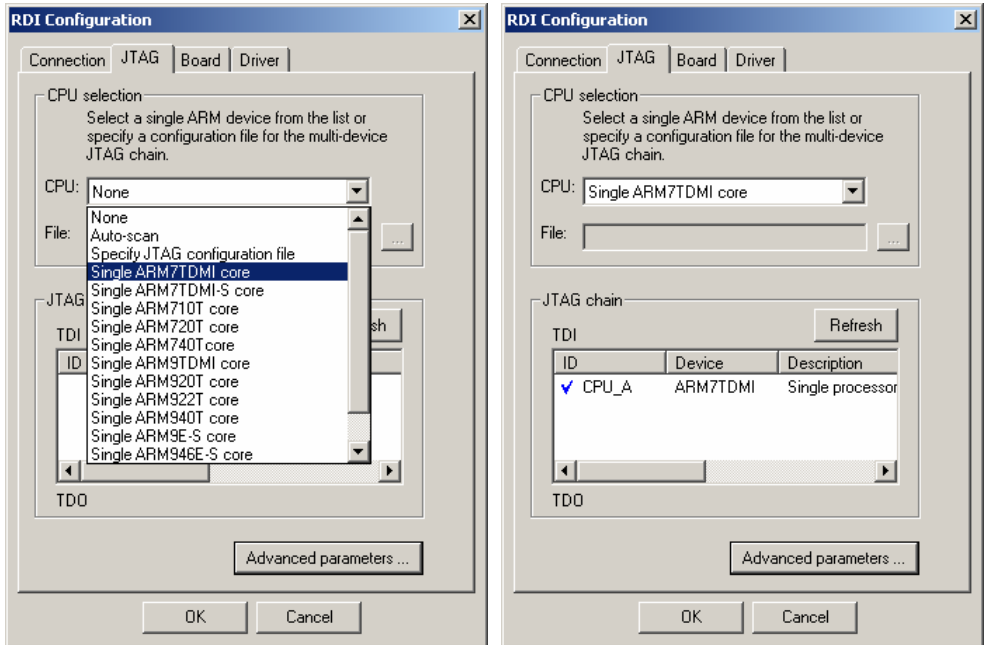

FIGURE 22 Selecting a single target CPU.
- From the CPU list, select the Single ARM7TDMI core option. The name (ID) and device type, along with a short description, are displayed in the JTAG Chain group box (Figure 22):
- Make sure that in the JTAG Advanced Parameters dialog box, the Emulation Mode is set to ARM (standard), while the JTAG clock field is either empty or displays the correct clock frequency (Figure 22).